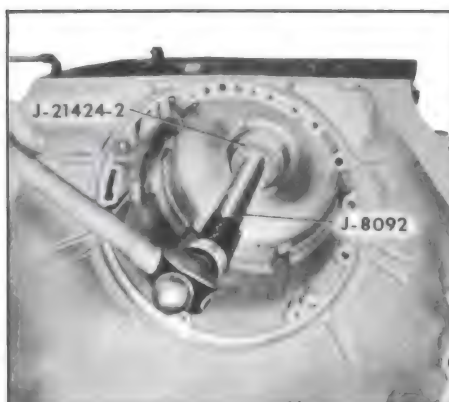

Figure 5-284
1. Install case bushing, make certain split on bushing is opposite notch in case. See Figure 5-284.